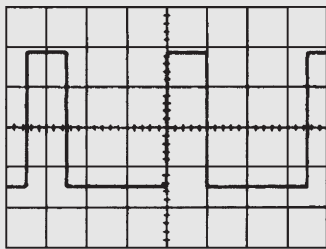

Figure 10.18
**Problem 8.** For the oscilloscope display of a pulse waveform shown in Fig. 10.18 the ‘time/cm’ switch is on 50 ms/cm and the ‘volts/cm’ switch is on 0.2 V/cm. Determine (a) the periodic time, (b) the frequency, (c) the magnitude of the pulse voltage.